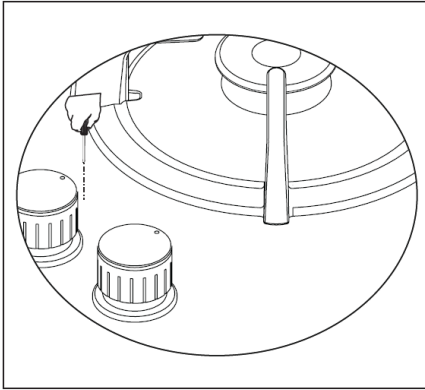

Figure 4
4. To access the valve reset screw, remove the button corresponding to the cooking zone you want to adjust by pulling it up (Figure 4).